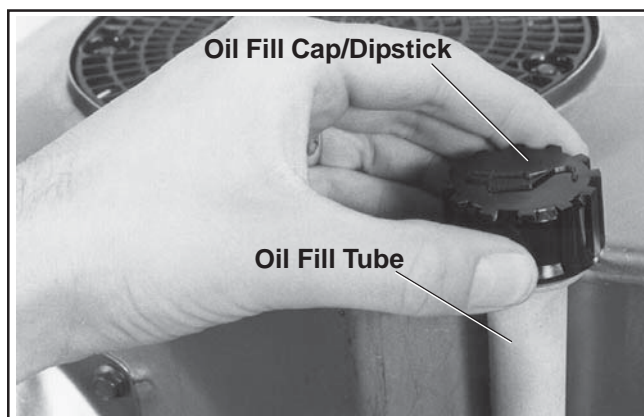

Figure 6. Checking Oil Level.
3. Unthread and remove the oil fill cap/dipstick; wipe oil off. Reinsert the dipstick into the tube and rest the oil fill cap on the tube. Do not thread the cap onto the tube. See Figure 6.